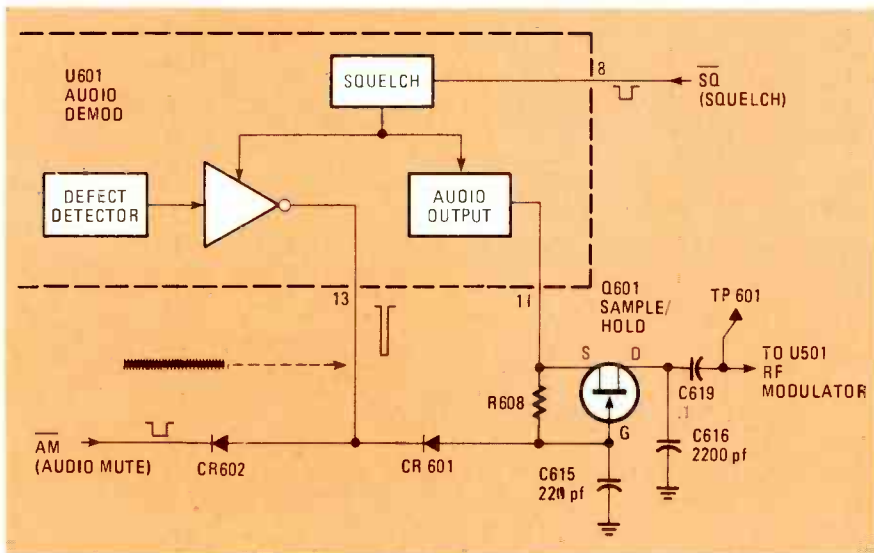

FIG. 3—AUDIO DEFECT CORRECTION and squelch circuits. They prevent pops and crackles caused by defects in the disc from appearing in the audio during playback.
The output from the defect detector forces the sample-and-hold circuit to maintain the previous value of the audio signal until defect-free audio information is received. When we take a look at Fig. 3, we can see that the audio signal from pin 11 of U601 is fed to the source (S) terminal of Q601, an FET sample-and-hold circuit.
ter LO. This signal is shown to the left of CR602 in Fig. 3. It forward biases CR602, which, in turn, forward biases CR601 pulling the gate of sample-and-hold FET Q601 to 0 volts or logic LO. This cuts off the flow of audio through Q601.